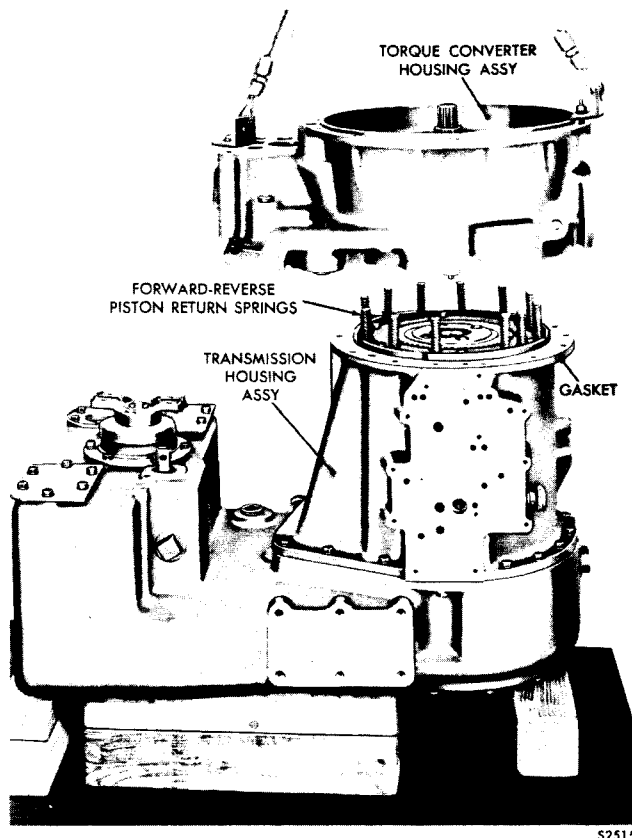

Fig. VII-27. Installing (or removing) torque converter housing assembly
(10) Install the 12 clutch piston return springs and pins, pin heads upward, into the clutch anchor (fig. VII-27).
(1) Install the gasket onto the front of the transmission housing (fig. VII-27).
(2) Hoist the torque converter housing into position over the transmission assembly (fig. VII-27).
(3) Install the torque converter housing onto the transmission housing (fig. VII-27). Be sure that the reverse clutch plates, pins and springs, spacer, and piston remain properly in position.
(4) Install 13 bolts and lock washers which retain the converter housing.